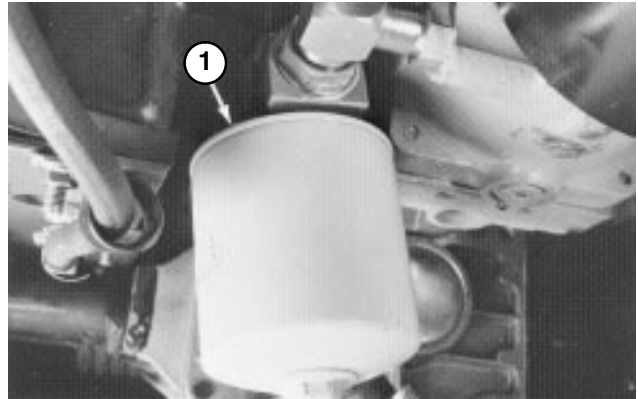

Figure 65
- Clean area where hydraulic oil filter mounts. Remove filter from base (Fig. 65) and clean filter mounting surface.